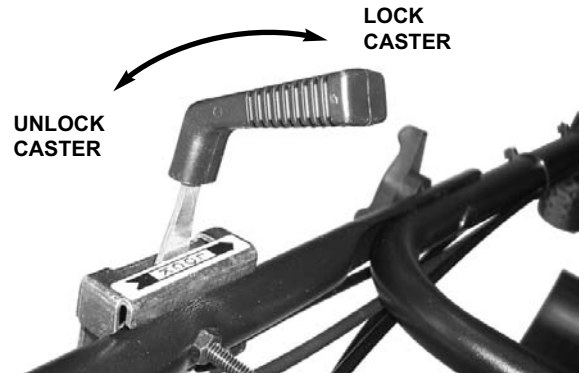

FIGURE 2.8
2. Move swivel caster lock lever, located on left side of handle assembly, to 'LOCK' position to lock clip down over caster stud. See Figure 2.8.
3. To release caster, simply move swivel caster lock lever back from locked position. See Figure 2.8.